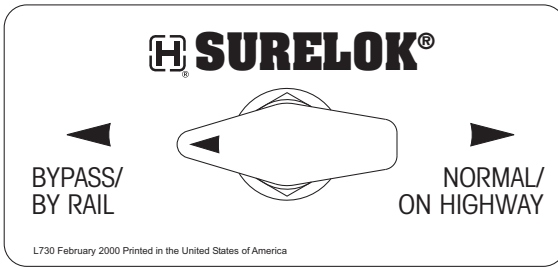

Figure 4. Bypassing SURELOK, prior to exhausting air suspension
On trailers that have manual air suspension exhaust capability, SURELOK® must be bypassed before the trailer air suspension is exhausted. This is accomplished with the SURELOK bypass valve (figure 4).
2. Turn the SURELOK bypass valve to the BYPASS / BY RAIL position (figure 4). SURELOK disengages and becomes nonfunctional.